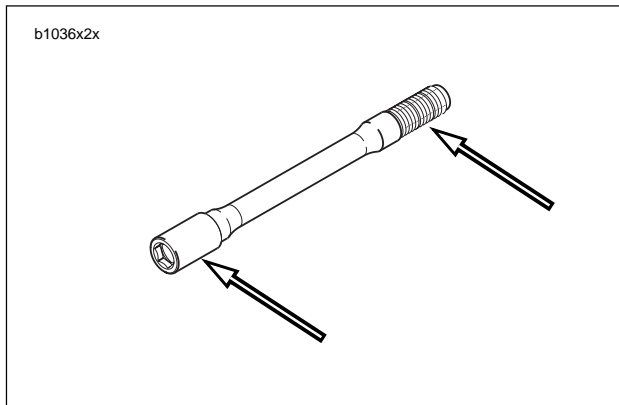

Figure 2-96. Anti-Seize Lubricant Location
14. See Figure 2-96. Coat the axle with ANTI-SEIZE LUBRICANT.